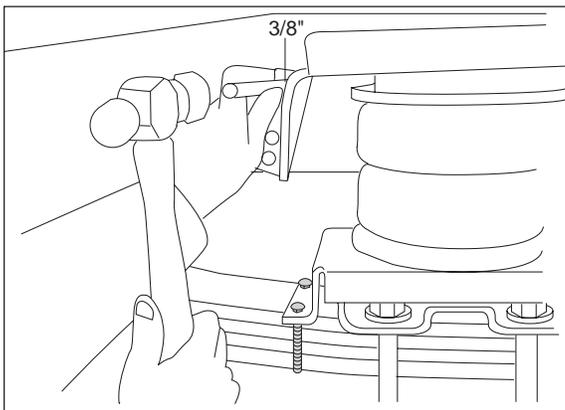

Figure 9
2. Using the upper bracket as a template, center punch and drill one $\frac{3}{8}$ " locator hole through the frame at one of the top bolt holes (Figure 9).